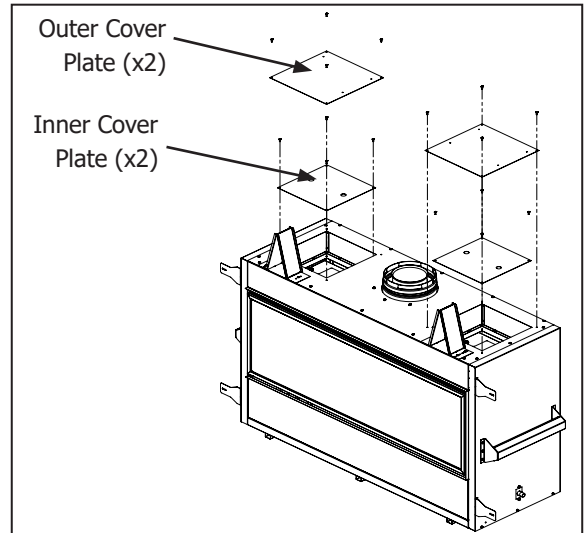

Figure 20: Cover Plate Removal
Step 1: Using a T20 screwdriver, remove the inner and outer cover plates from the fireplace as shown (Figure 20). Each cover plate has four (4) mounting screws. Both sets of cover plates are no longer required and can be recycled. Retain eight (8) of the removed mounting screws to secure the duct collars.